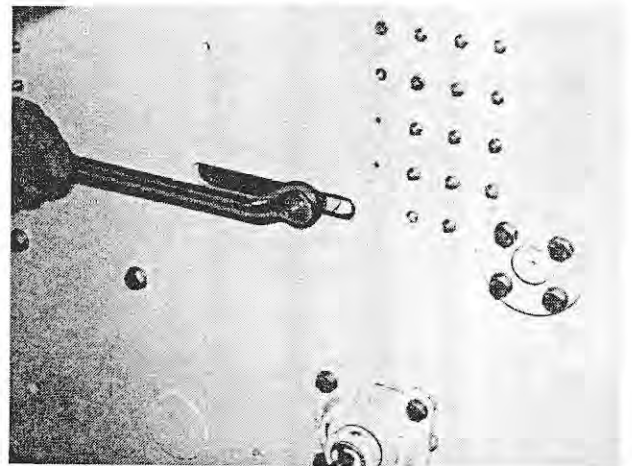

Fig. 70
3. To adjust the chain tension, loosen the hex nut which locks the tensioning wheel (Figure 70). Relocate the tensioning wheel appropriately and tighten the locking screw. Check the adjustment and correct it, if necessary.